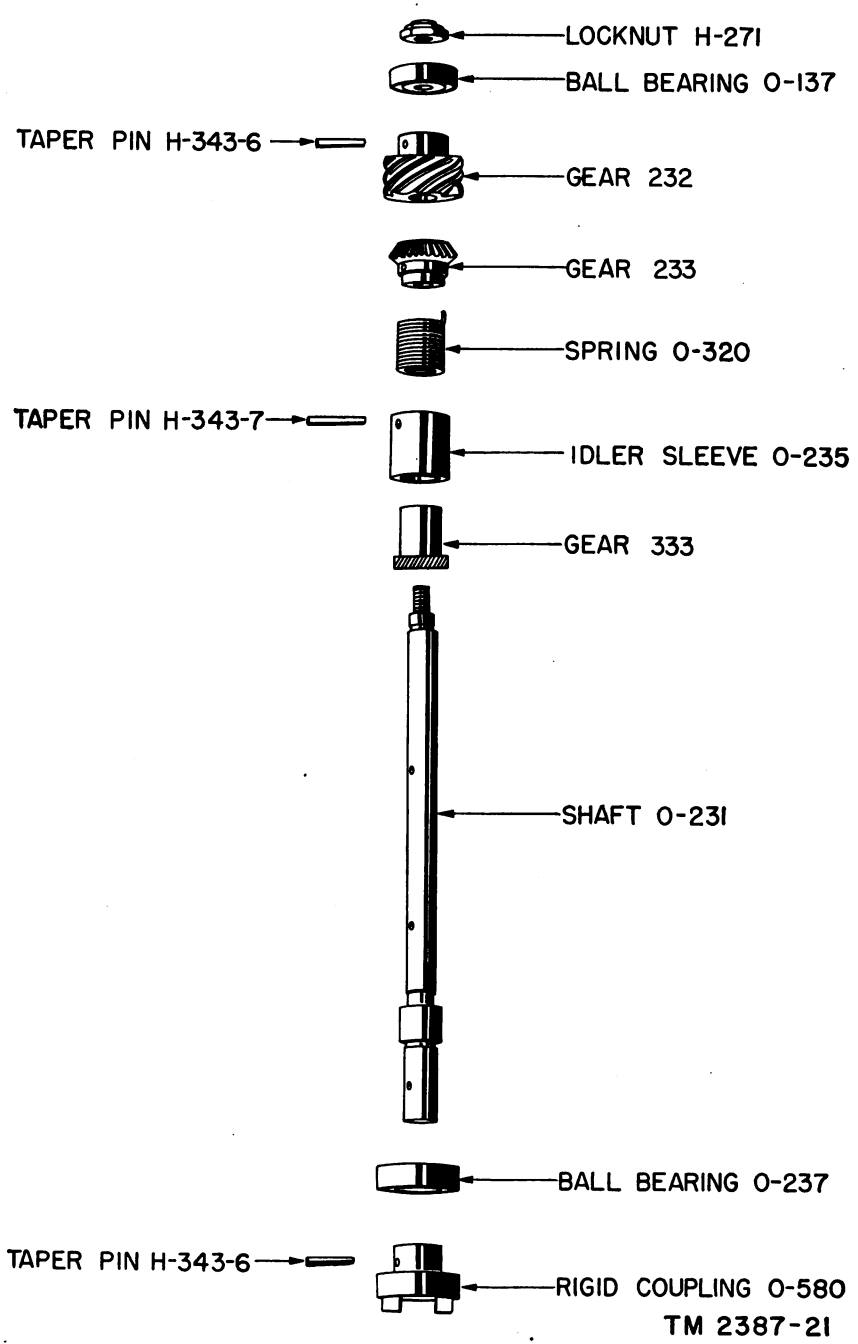

Figure 22. Main drive shaft, exploded view.
e. **MAIN DRIVE SHAFT** (fig. 22). Remove screws H159-6 and nuts H259 which hold retainer plate O-393 to the top of the drive shaft (fig. 17). Remove locknut H271, push out the top ball bearing O-137, and remove from shaft. Push the shaft toward the top of the camera, until the lower ball bearing O-237 is free, and lift from the drive plate. Coupling O-580 is held to shaft O-231 by taper pin H343-6. The lower ball bearing O-237 is a slight push fit on the shaft at gear 233. Gear 333, idler sleeve O-235, and spring O-320 are fastened to the shaft with pin H343-7 which passes through the sleeve and gear. Gear 232 is held to the shaft with pin H343-6. Reassemble in the reverse order, placing one retainer plate O-393 on the shaft before inserting in the top bearing housing.